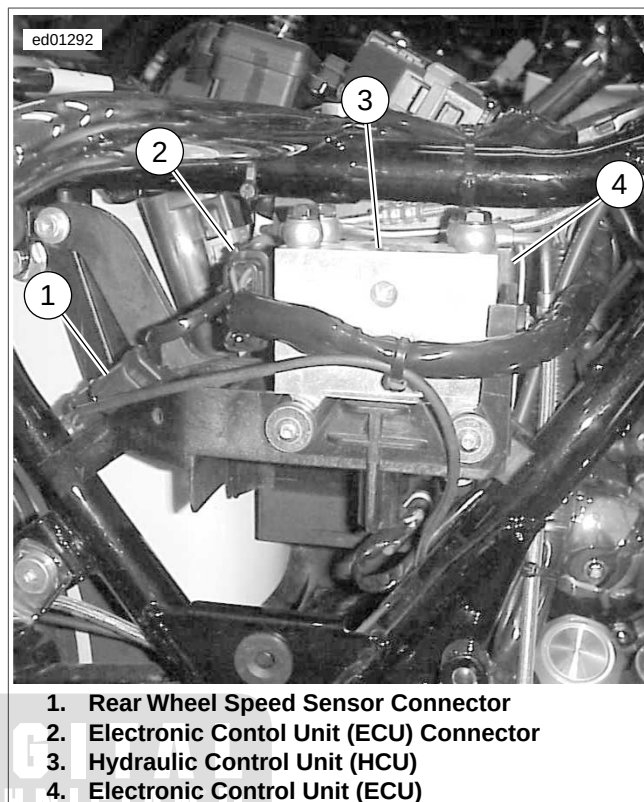

Figure 6-1. ABS Module
- See Figure 6-1. Electronic Control Unit (ECU): The ECU contains the motor relay, valve relay, system enable relay, and the solenoids.
- See Figure 6-1. Hydraulic Control Unit (HCU): The HCU contains the four valves (an apply valve and release valve for each wheel), two pumps, pump motor, and accumulators.